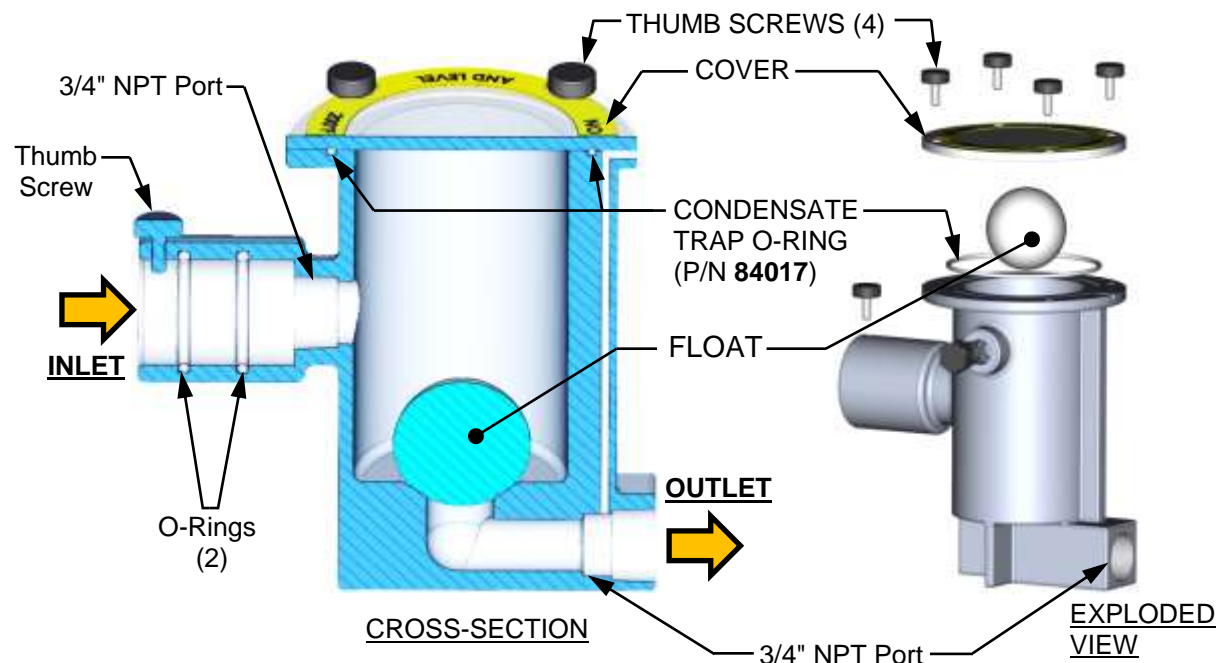

Figure 4-10: External Condensate Trap – Cross-Section & Exploded View
1. Disconnect the external condensate trap by loosening and then removing connections on the inlet and outlet sides of the condensate trap (see Figure 4-10).
2. Loosen the four (4) thumbscrews securing the trap's cover and then remove the cover and the O-ring from under the cover.